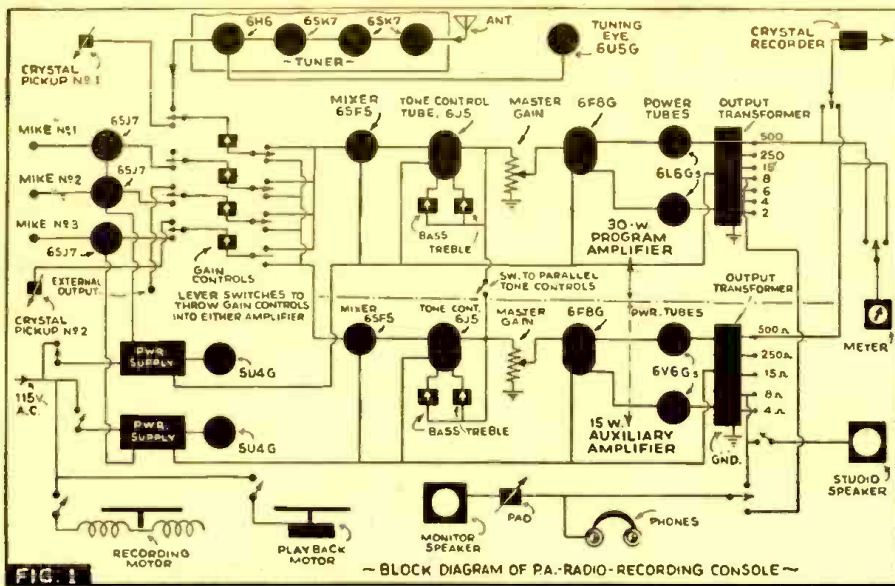

FIG. 1 — BLOCK DIAGRAM OF PA-RADIO-RECORDING CONSOLE —
A block diagram of the entire unit is given in Fig. 1. A switching scheme allows the various channels to be connected to either amplifier. By connecting the amplifiers before the master gain controls, it is possible to use both tone control channels on the same amplifier. Thus, a mike may be tone-altered for unusual sound effects while another is used straight at the same time. A total of 8 channels is provided, 4 of which may be mixed. The lever switch above each channel gain control switches that control into either the Program or Auxiliary amplifier.
**T**HE simplest qualitative test for distortion in a class A audio-frequency amplifier stage may be made, as shown in Fig. 1, by applying a signal voltage of proper level to the input and inspecting the circuit for one or all of the following abnormal conditions: